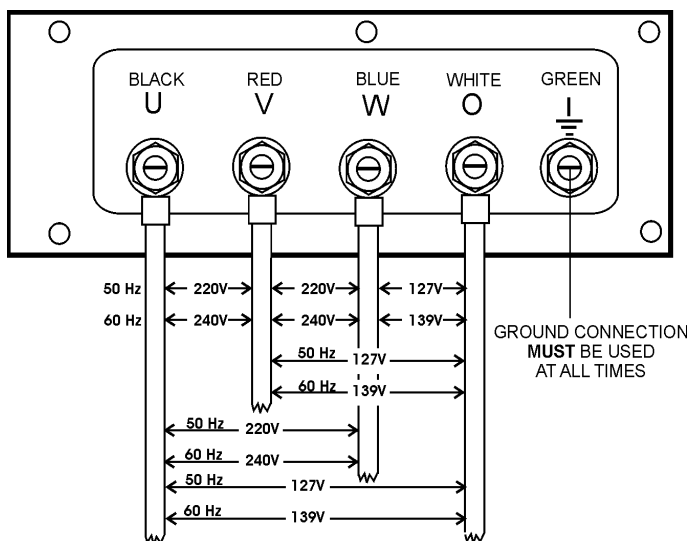

Figure 23. Output Terminal Lugs 3Ø 220/240V (50/60 Hz) Connections
2. Connect the load wires to the **Output Terminal Lugs** as shown in Figure 23.